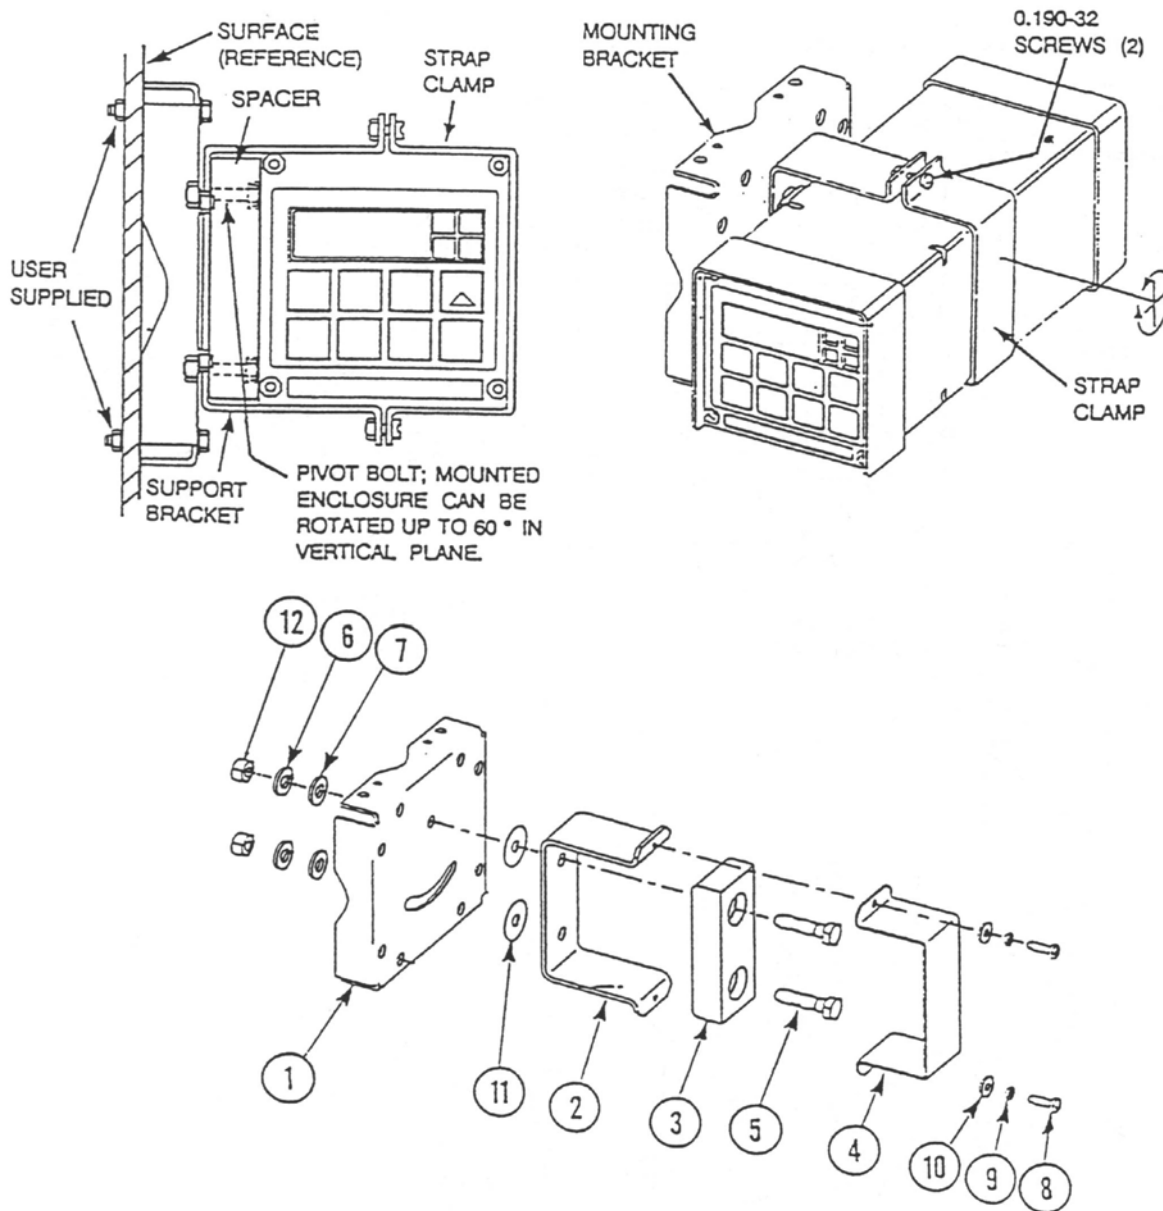

Figure 6. Metal Enclosure - Fixed Mount
2. Referring to Figure 6, use mounting bracket as template for drilling four holes into mounting surface. Notice that holes in mounting bracket are 8.74 mm (0.344 in) in diameter. Do not attach mounting bracket to surface at this time.
- a. Place hex bolts (5) through spacer (3) into support bracket (2).
- b. Slide nylon washers (11) over bolts (5).
- c. Slide bolts through universal mounting bracket (1) and fasten assembly together with hardware designated 7, 6, and 12.
- d. Attach universal mounting bracket (1) to wall.
- 4. Slide Analyzer into support bracket and slide strap clamp (4) onto Analyzer. Using two sets of screws, nuts, and washers, attach strap clamp to support bracket to secure Analyzer.